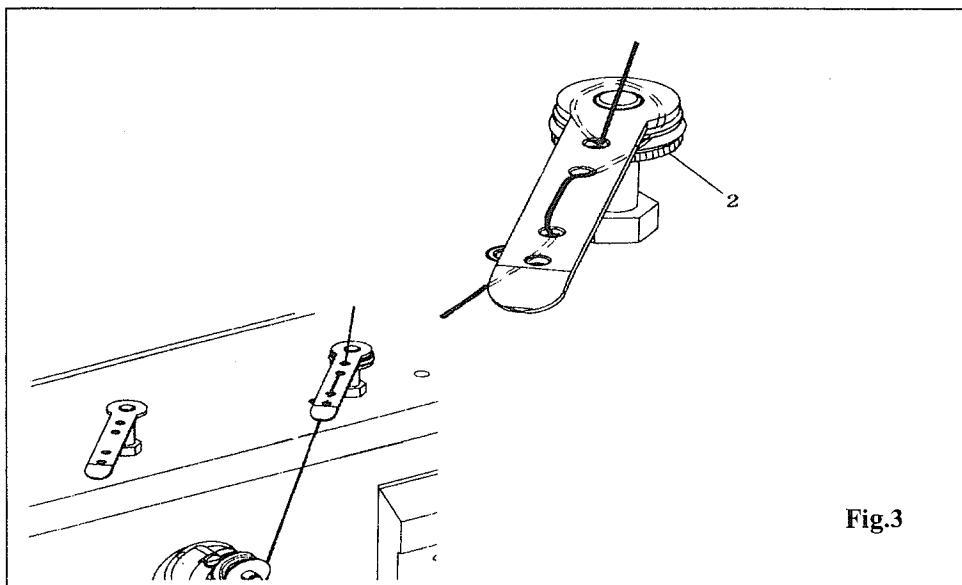

Fig.3
- ① Switch off the machine!
- ② Loosen needle-holding screw
- ③ Put the needle in as far as it will go (the long needle groove should point to the left)
- ④ Tighten needle-holding screw 1
2) WINDING THE LOWER THREAD, REGULATING THE TENSION OF THE THREAD (Fig.3)
- ① Put an empty bobbin onto the bobbin shaft and thread the thread according to Fig 3
- ② Push the bobbin catch in the direction of the arrow
- ③ The bobbin is filled during the progress of the sewing.
- ④ The bobbinet stops automatically when the bobbin is full.
- ⑤ The tension of the thread on the bobbin can be adjusted with knurl-screw 2.